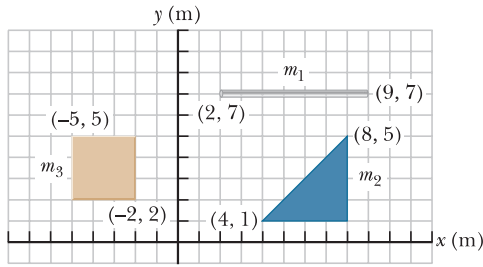

Figure P12.7
7. Figure P12.7 on page 380 shows three uniform objects: a rod with $m_1 = 6.00$ kg, a right triangle with $m_2 = 3.00$ kg, and a square with $m_3 = 5.00$ kg. Their coordinates in meters are given. Determine the center of gravity for the three-object system.